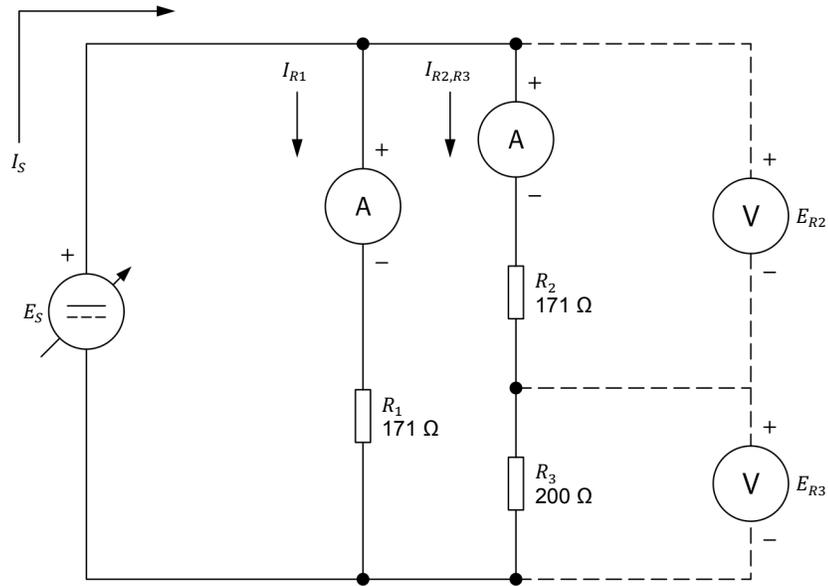

Figure 33. Circuit made of resistors connected in series-parallel.
- 32.** Set up the circuit shown in Figure 33. To obtain the resistor arrangement of Figure 33, make the necessary connections and switch settings on the **Resistive Load** module.
Set a multimeter to measure dc current and connect it in series with resistor R_1 , as Figure 33 shows.
Set another multimeter to measure dc current and connect it in series with resistor R_2 , as Figure 33 shows.
- 33.** Calculate the equivalent resistance $R_{Eq.}$ of the resistors in Figure 33. Then, calculate the source current I_S based on the equivalent resistance $R_{Eq.}$ and the source voltage E_S of 50 V.
Set the multimeters to measure dc voltage. As Figure 33 shows, connect a voltmeter across resistor R_2 . Connect the other voltmeter across resistor R_3 .
5. Refer to Figure 33. How can the source current I_S be reduced by half?